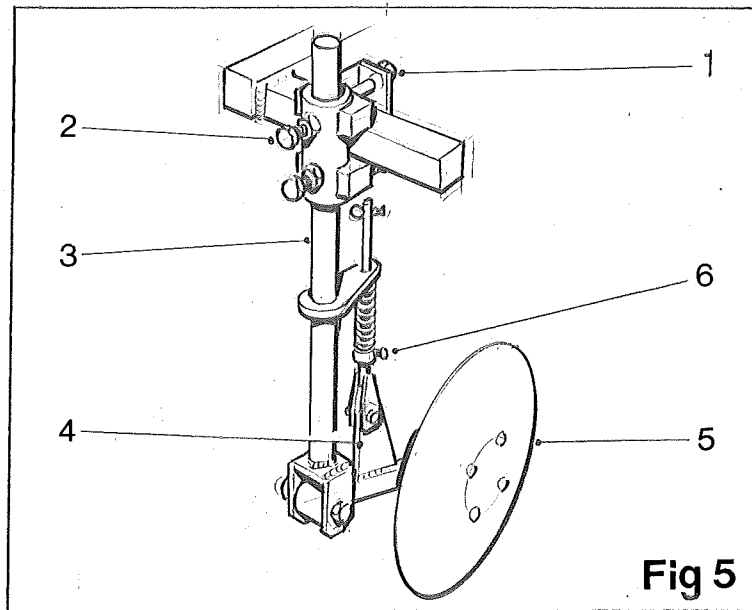

Fig 5
As with the scalpers, the disc coulters can be adjusted to suit varying row widths. To adjust, slacken the set screws (item 1, fig 5) and slide the disc assembly along the tool bar to the required position and retighten. Adjustment is also provided to obtain different depths of cut. To adjust, loosen the securing bolts (item 2, fig 5) and slide the disc arm support (item 3, fig 5) either up or down. Once adjustments have been made for row widths, depth etc., attention must be paid to the tension of the disc coulters. The pressure on the disc arm (item 4, fig 5) should be enough to make the disc (item 5, fig 5) cut into the soil but allow it to ride over obstructions. To adjust the downward pressure on the disc (item 5, fig 5) reposition the locking collar (item 6, fig 5).